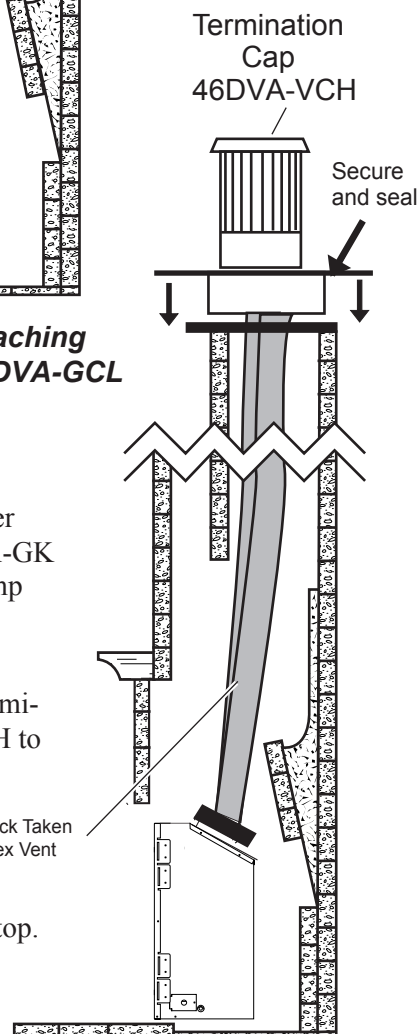

Figure 33d - Chimney Termination.
6. Connect a Chimney Liner Termination Kit 46DVA-GK and both flex lines. Clamp and secure with screws. *Figure 33d.*